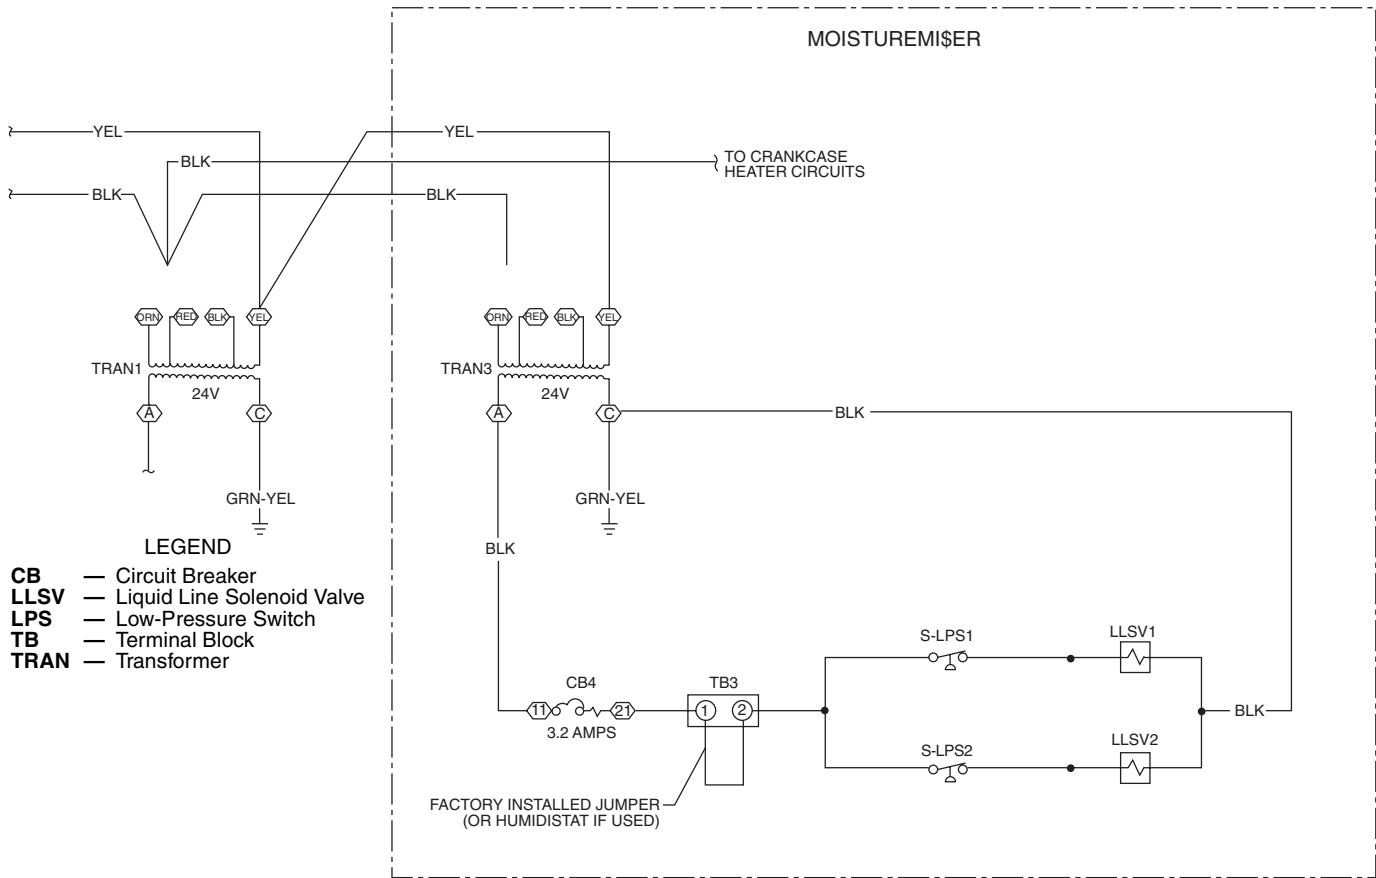
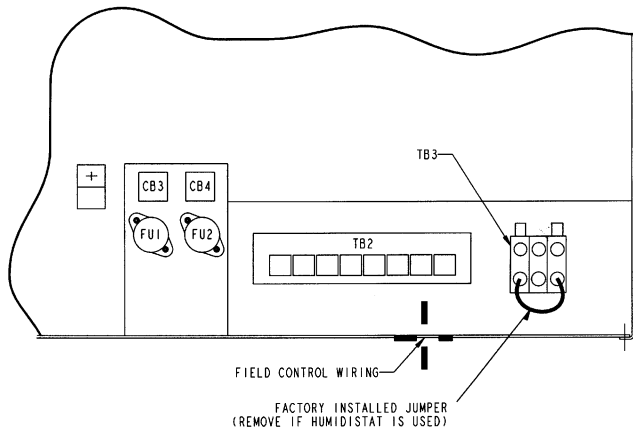
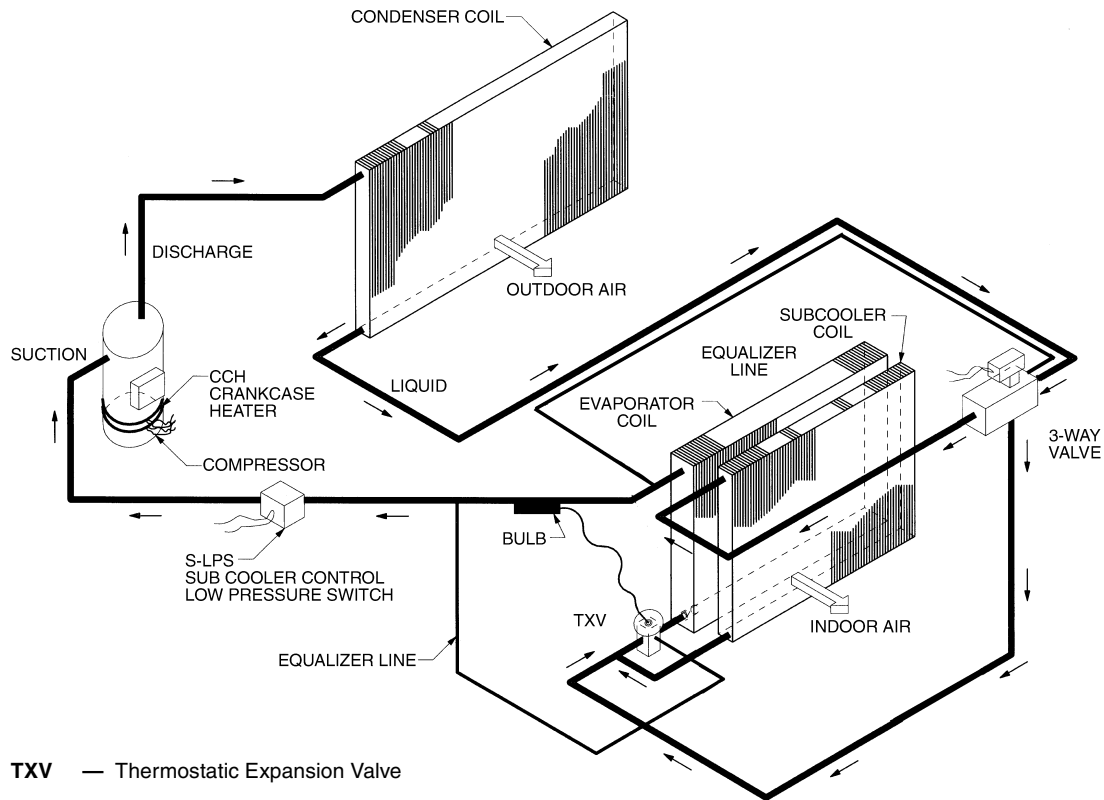

Fig. 43 — Typical MoistureMi\$er™ Dehumidification Package Humidistat Wiring Schematic (460 V Unit Shown)
Fig. 44 — Typical MoistureMi\$er Dehumidification Package Control Box
Fig. 45 — MoistureMiSer™ Dehumidification Package Operation Diagram
2. Route thermostat cable or equivalent single leads of colored wire from Humidistat terminals through conduit in unit to the low voltage connection on the 2-pole terminal strip (TB3) as shown in Fig. 43 and Fig. 44. See Fig. 45 for operational diagram.